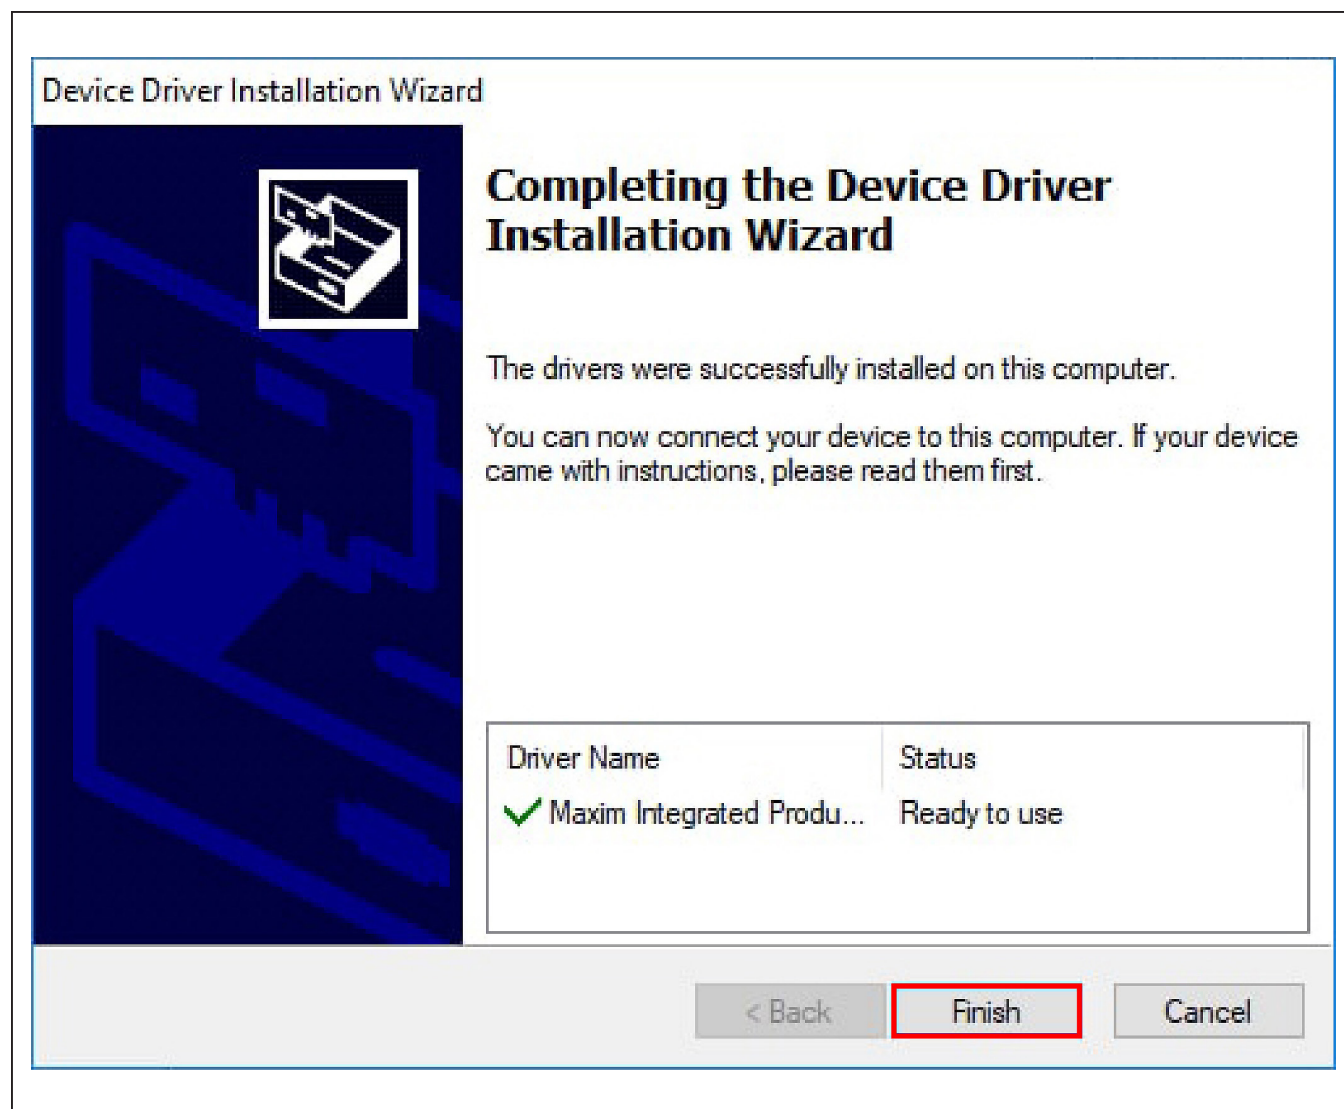

Figure 4. DS9481 Device Driver Installation Finished
- d) Click **Finish** on the Device Driver Installation Wizard window (Figure 4).